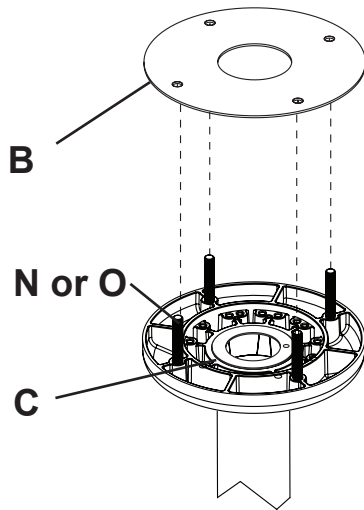

fig. 5.1
- 12** **NOTE: Locks must be in the open or unlocked position to continue installation.** Hook vertical brackets (**D** and **E**) into adapter bracket box (**A**) engaging adapter pins as shown in fig. 5.1 and detail 6. Rotate keys to locked position and remove keys as shown in figure 5.2. Return the keys to the General Manager or responsible party immediately after installation is complete.